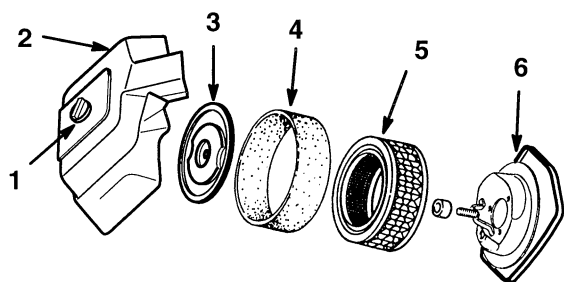

Figure 14
3. Clean around the air cleaner to prevent dirt from getting into the engine and causing damage. Remove the wing nut and air cleaner cover (Fig. 14).
4. Unscrew the nut and remove the cover, foam element and paper element (Fig. 14).
5. Carefully slide the foam element off the paper element (Fig. 14).
1. Carefully slide the foam element onto the paper air cleaner element (Fig. 14).
2. Place the air cleaner assembly into air cleaner base. Slide cover onto rod and secure with nut (Fig. 14).
3. Install the air cleaner cover and secure with wing nut (Fig. 14).